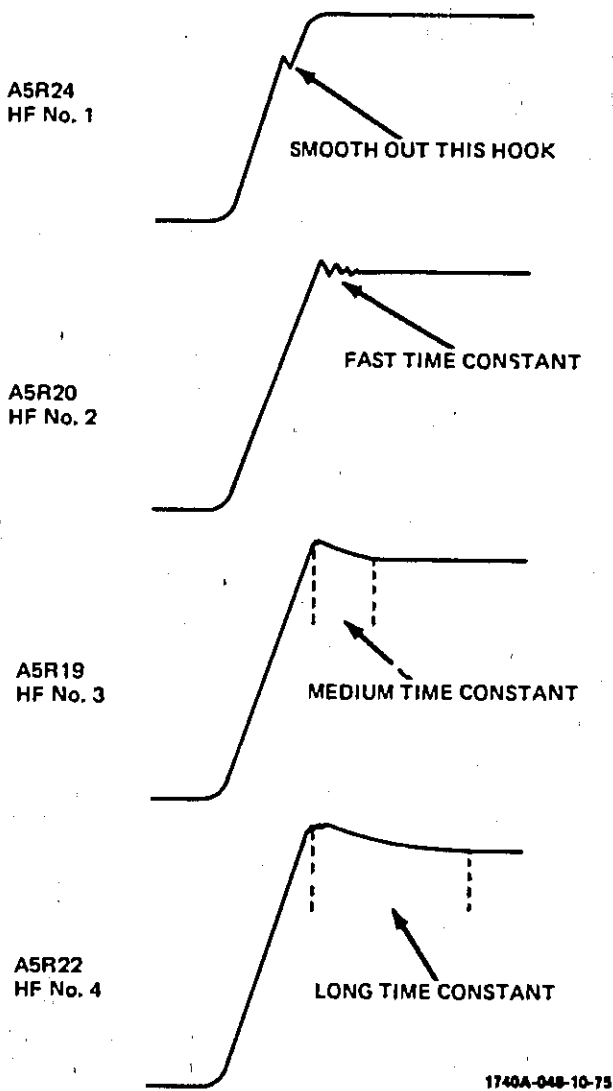

Figure 5-1. Pulse Response Adjustments
d. Adjust HF No. 1 A5R24 cw to partially smooth front edge perturbation. Adjust HF No. 2 A5R20 cw to speed up front edge (see figure 5-1).